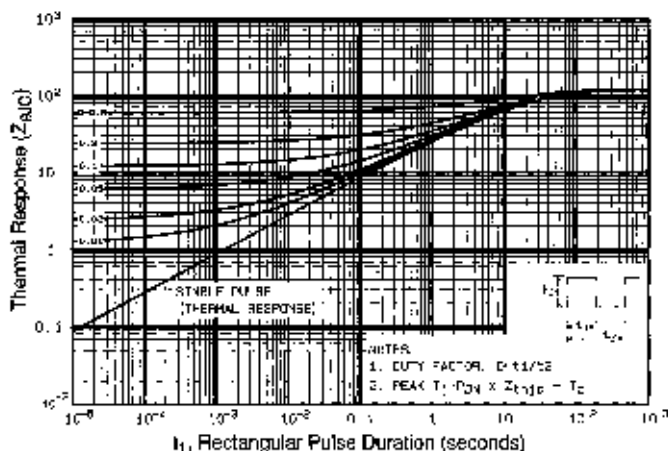

Fig 11. Maximum Effective Transient Thermal Impedance, Junction-to-Case
① Repetitive rating; pulse width limited by max. junction temperature (See Figure 11)
② $I_{FS}=10A, di/dt=90A/\mu s, V_{GS}=V_{DS(oss)}, T_J=175^\circ\text{C}$